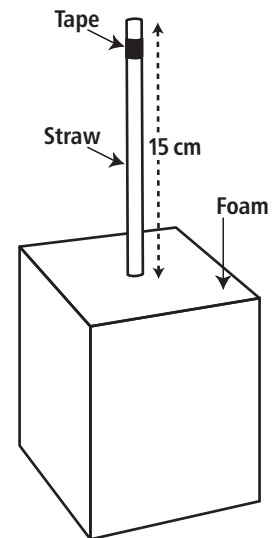

Figure 4: Drag Stand
4. Slide the straw over the wooden skewer until it makes contact with the foam block (figure 4).